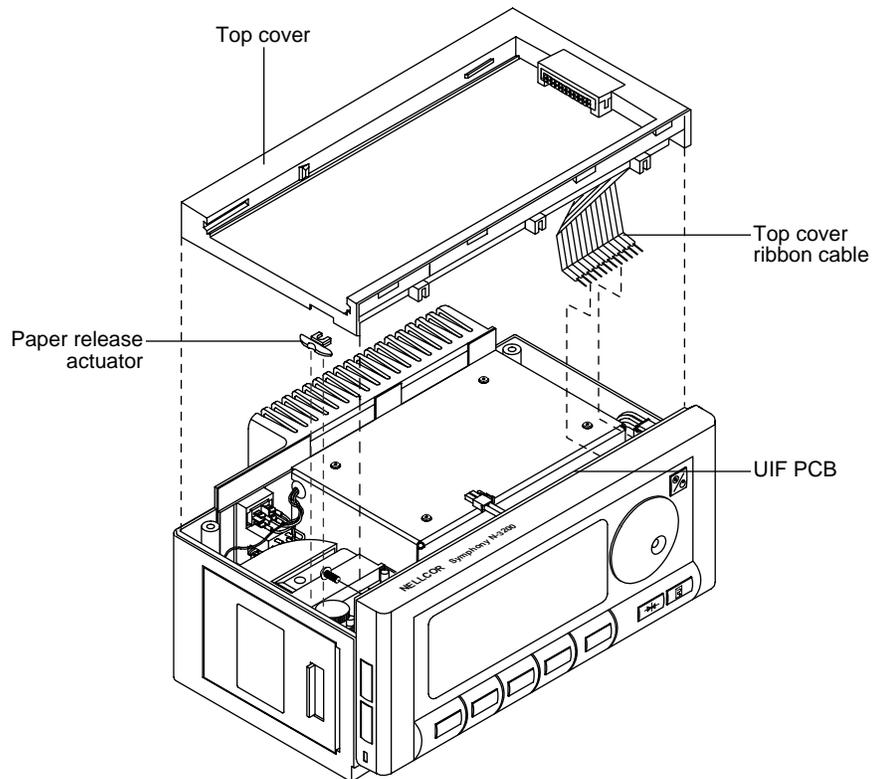

Figure 6-5: Removing Top Cover
4. Remove the top cover as illustrated in Figure 6-5, by first lifting away the rear of the cover from the N-3200, then disconnecting the hinges on the front of the cover.
6. Disconnect the top cover ribbon cable from the UIF PCB as illustrated in Figure 6-5. To release the cable, push in firmly on the bottom of the connector on the UIF PCB while pulling on the cable.
14. Reconnect the top cover ribbon cable to the UIF PCB and reattach the top cover (Figure 6-5).